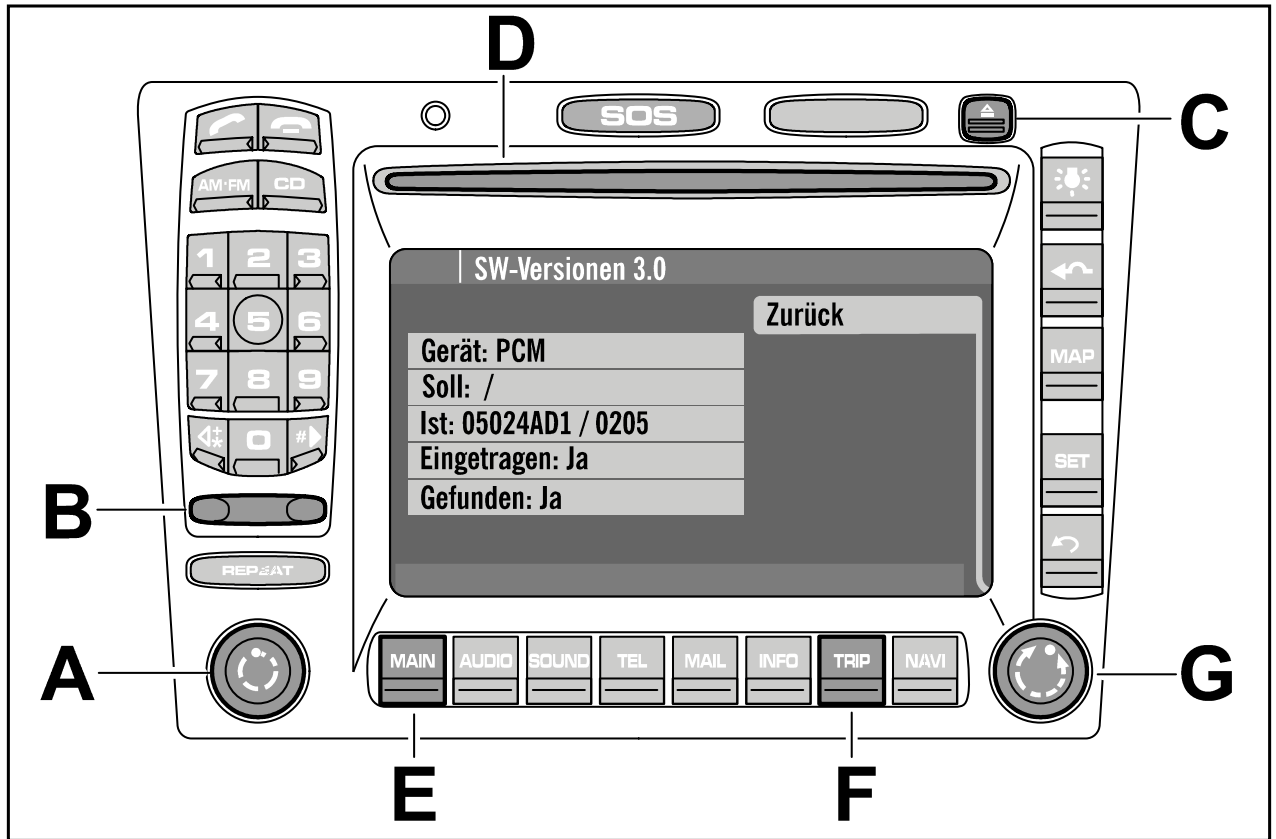

Figure 1
- 1.3 Switch on PCM2.1 by pressing the "On/Off" switch ⇒ Figure 1 -A-.
- 1.4 Open the drawer for the telephone card ⇒ Figure 1 -B-, remove the telephone card if there is one there and close the drawer again.
- 1.5 Press the Eject button ⇒ *Figure 1 -C-* and remove CD from the CD slot ⇒ *Figure 1 -D-*, if one was inserted.
- 2.1 Press the "MAIN" and "TRIP" buttons ⇒ *Figure 1 -E and F-* simultaneously to go to the "SW versions" display.
- 2.2 Select "PCM" in the menu by turning the rotary knob ⇒ *Figure 1 -G-* and press the knob to confirm your selection.
- 3.6 If the PCM2.1 does not switch on again automatically, switch on the PCM2.1 again by pressing the "On/Off" switch ⇒ *Figure 1 -A-*.
- 3.7 Press the Eject button ⇒ *Figure 1 -C-* and remove the update CD from the CD slot ⇒ *Figure 1 -D-*.
- 5.3 Switch off PCM2.1 by pressing the "On/Off" switch ⇒ *Figure 1 -A-*.
- 5.6 Switch on PCM2.1 and confirm the PCM2.1 display by pressing the rotary knob ⇒ *Figure 1 -G-*.